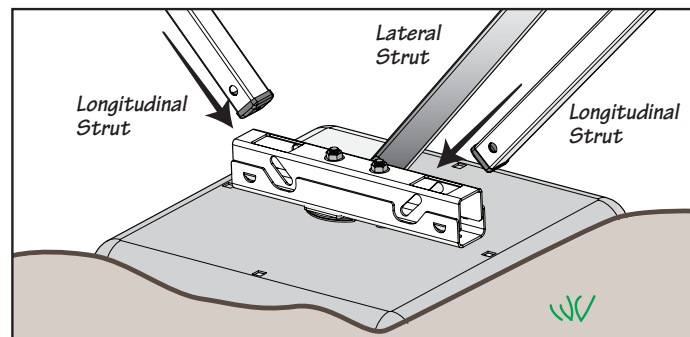

Fig. 3-4
- Insert longitudinal struts into the ends of the assembled tension bracket as shown in Fig. 3-4,. The struts will hang loose.